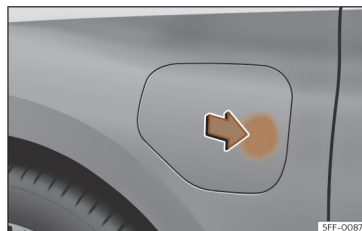

Fig. 59 Opening the charging socket cover.
• If the vehicle is unlocked, the battery charging cover opens when the indicated zone is pressed >>> **Fig. 59.**